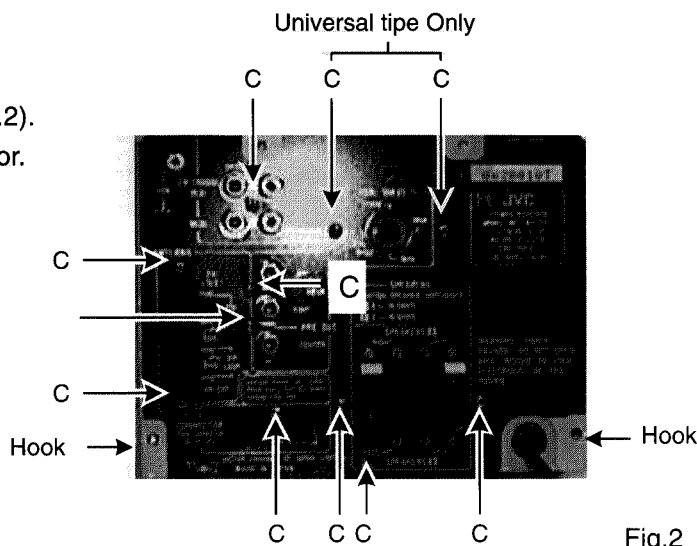

Fig.2
- 1.Remove 9 screws(C)fastening rear panel(Fig.2).